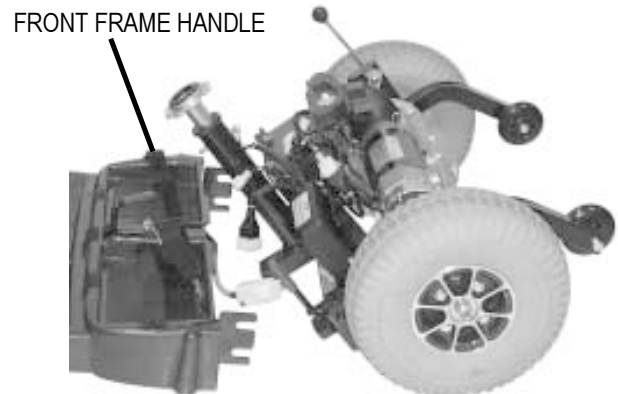

FIGURE 17. FRONT AND REAR SECTIONS
11. With one hand on the seat pedestal and one hand on the front frame handle, gently slide the front and rear sections apart. See figure 17.
2. Position the front and rear sections of your Victory as shown in figure 17.